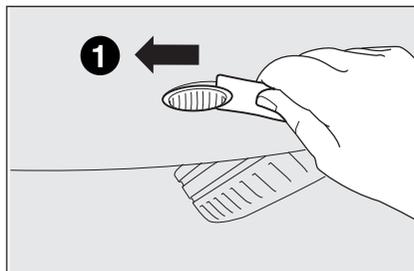

fig. 16a
- lever the lens off, by initially applying force from the front towards the back (**1**-fig. 16a);